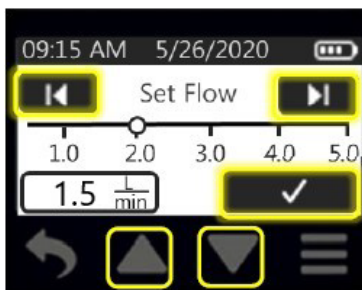

Figure 28. Left/Right and Up/Down Buttons
4. To toggle flow settings; touch the left or right arrow buttons. Flow changes by increments of 0.5 L/min. Touch up/down arrow buttons to fine-tune setting (Figure 28).